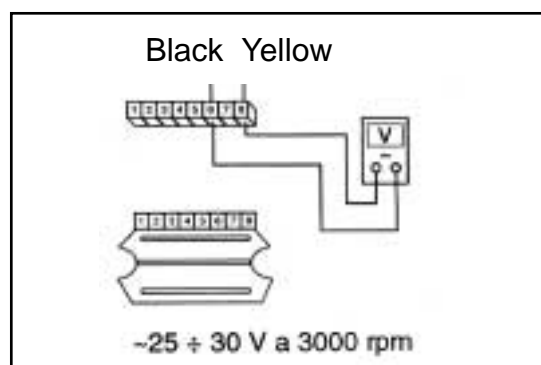

Fig. 4
- b) If replacing the regulator does not re-establish correct operation, set the tester 020031Y for alternating current voltage, connect between the regulator yellow cable terminal and the black cable (Fig.4) and check that the voltage distributed by the generator at 3,000 rpm falls between 26-30V (this test should be carried out with the battery disconnected).